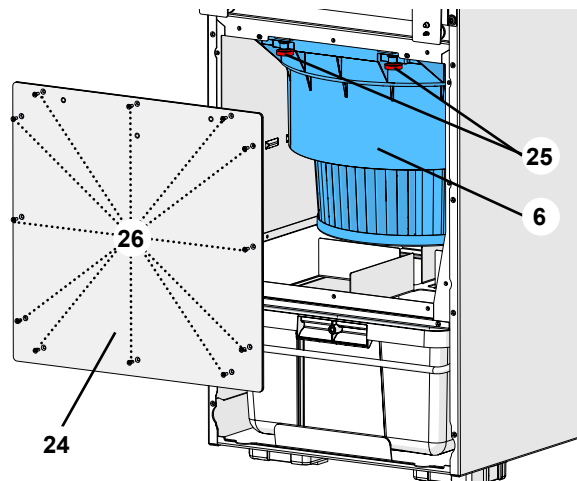

Fig. 25
- ⇒ Place the rear edge of the fine filter into the guide rails (27), push in completely and flip up and close.
- ⇒ Insert fixing screws (25, Fig. 25) and screw closed.
i *If it is not possible to close the cover plate, then the fine filter has not been completely returned into the housing, or the fine filter is situated too low due to the fact that the fixing screws (25, Fig. 25) have not been tightened sufficiently.*